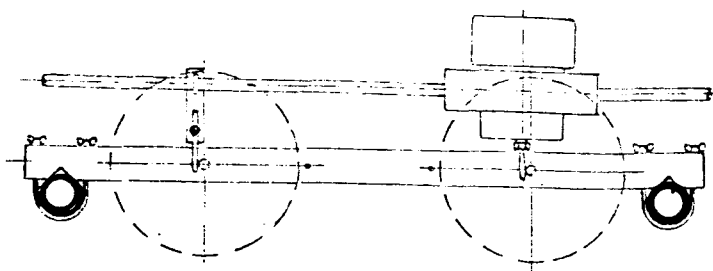

FIGURE 2A
14. Using the router bit and stylus set-up, align the front center bushings horizontally so that their span is the same as the router bit and stylus span. Also, align vertically until both bushings touch the tip of the router bit and stylus. See Figure 2A and 2B.